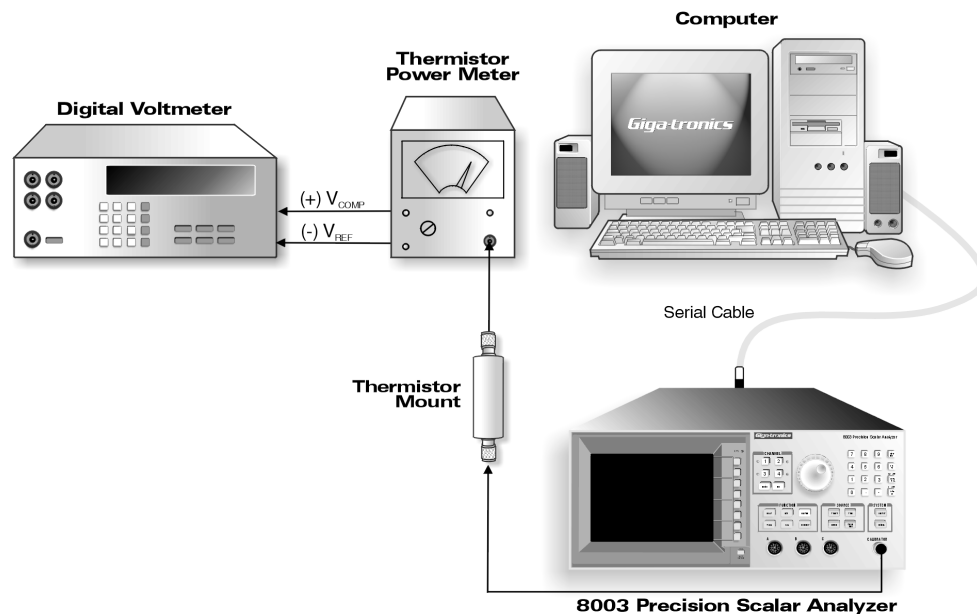

Figure 4-1: Calibrator Output Test Setup
1. Connect the 432A to the Calibrator Output on the 8003 as shown in Figure 4-1.